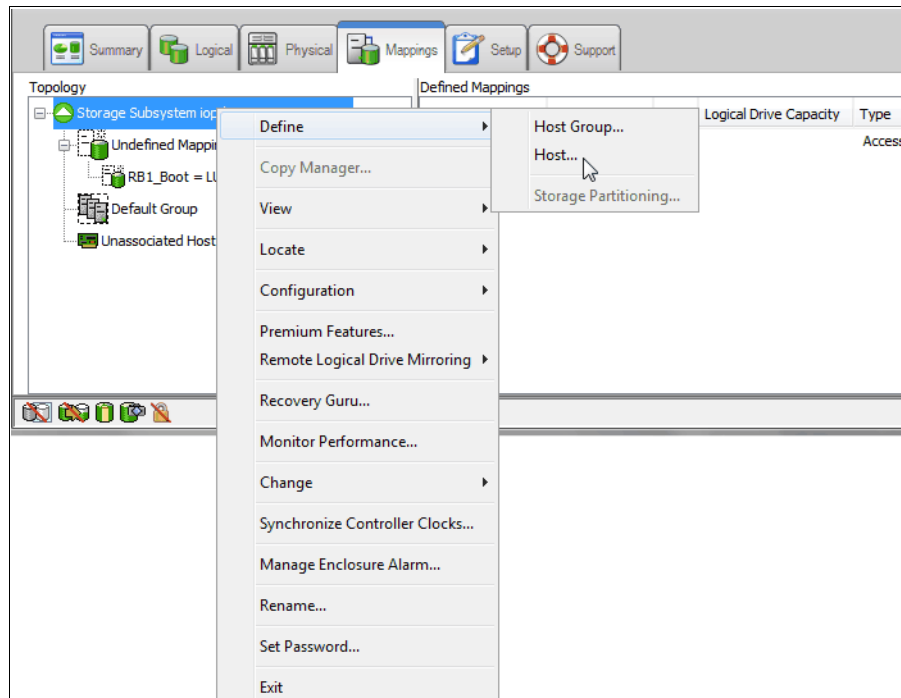

Figure 2-61 Defining the Host
2. To create the host, right-click your storage subsystem, then click **Define** → **Host**, as shown in Figure 2-61.